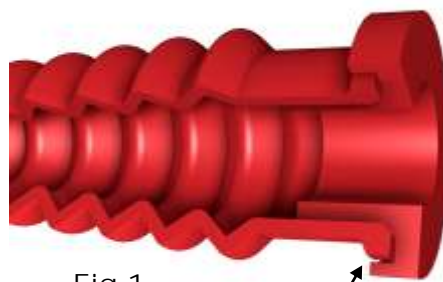
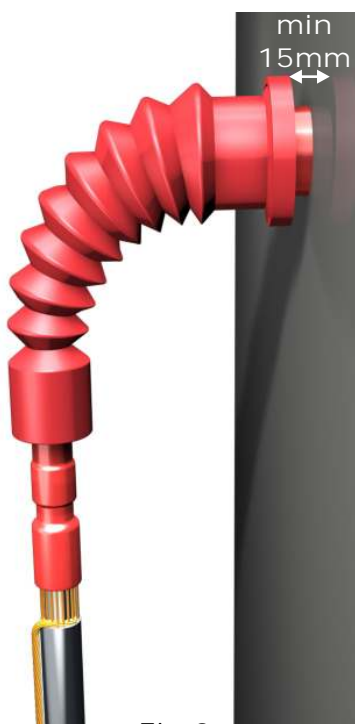

Fig 1
Fig 2
3. Offer up the Boot into either the Right Angle (See Fig 2) or Straight (See Fig 3) position. Make sure that the Raised Ridge on the Boot is positioned at the back of the Collar as shown in Fig 1.